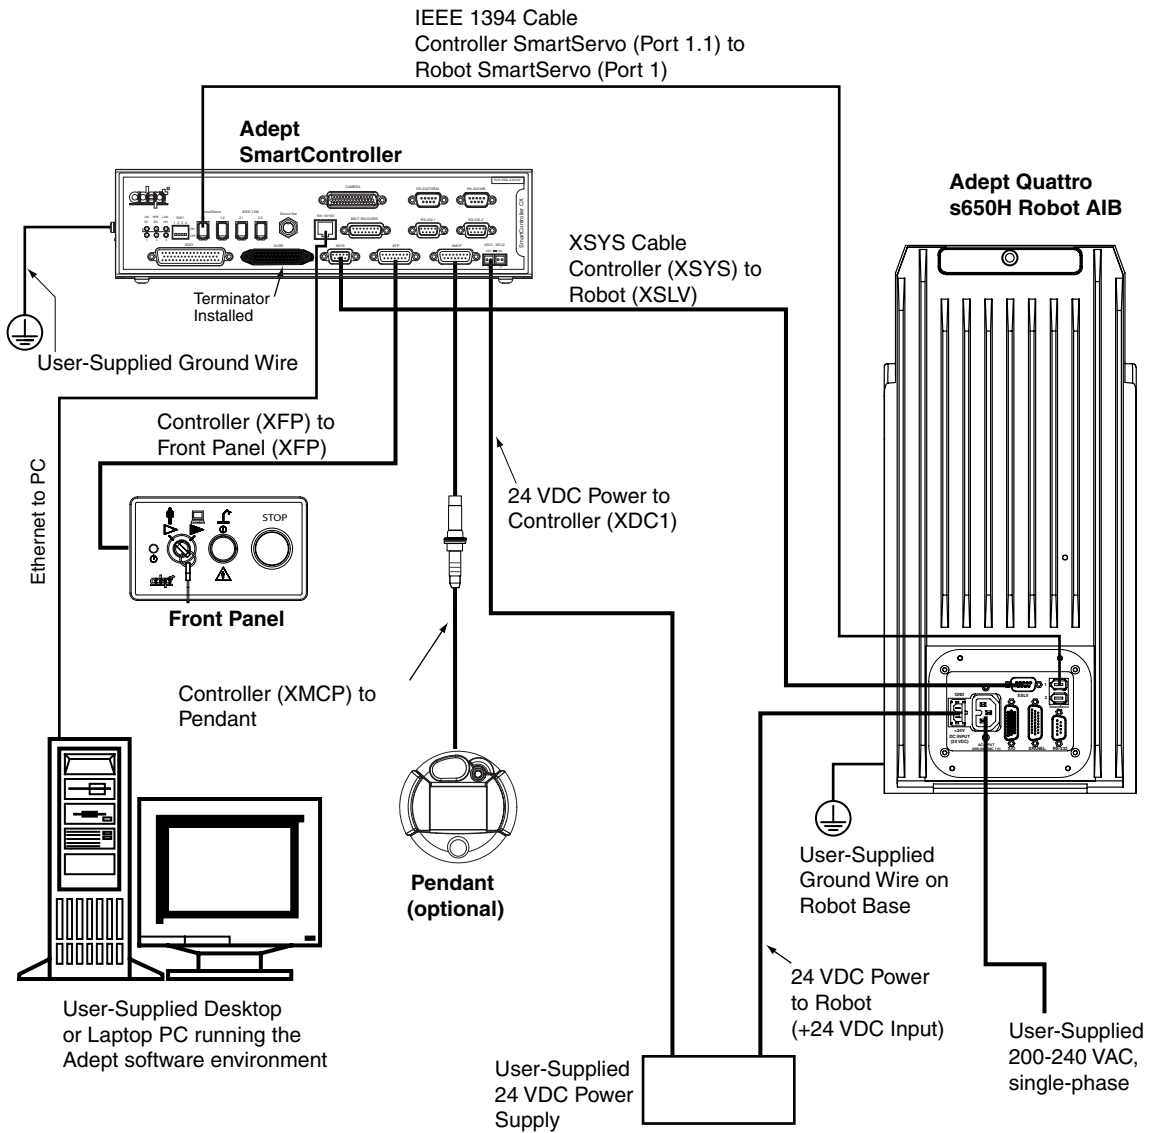

Figure 4-1. System Cable Diagram
2. Plug one end of the IEEE 1394 cable into the SmartServo port 1.1 or 1.2 connector on the SmartController, and plug the other end into the SmartServo port 1 connector on the robot interface panel. See Figure 4-1 on page 51.